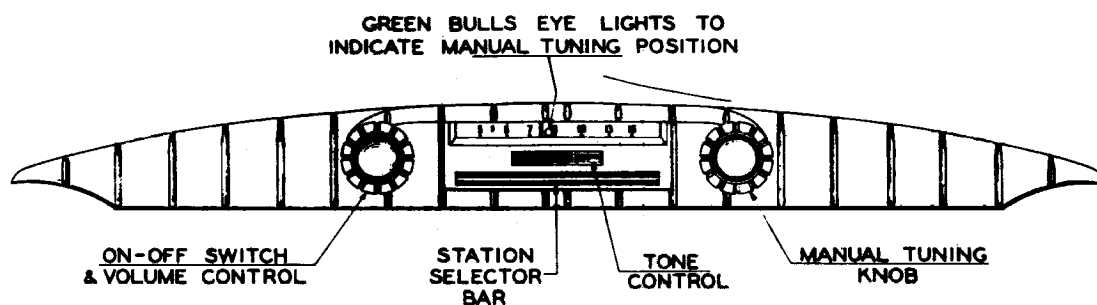

Fig. 1. Lincoln
Figures 1, 1A, 2 and 2A, illustrating the escutcheon plates, control knobs and the installed receivers, are given here to facilitate removal and reinstallation of the receivers when service or repair is necessary.
1. Press station selector touch-bar (Fig. 1) several times or until the green dot appears in the back ground of the dial.
TONE CONTROL—The tone control is located under dial scale. (Fig. 1.) Turn in either direction for most pleasing tone.
1. Press station selector touch bar (Fig. 1) until green dot appears in dial scale background. Press the touch bar once more to advance Adjust-O-Matic mechanism to the No. 1 position.